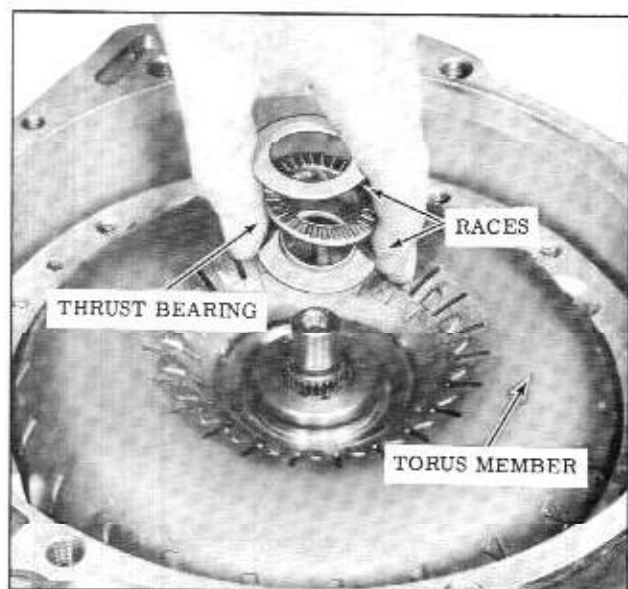

Figure 3-40 Removing Bearing and Races
5. Remove race, thrust bearing, and race from either torus cover or torus member. Parts may have remained with either unit. (Fig. 3-40)